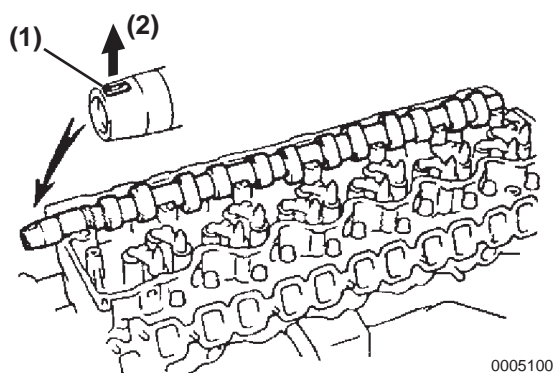

Figure 5-71
3. Install the camshaft on the cylinder head with the keyway groove (**Figure 5-71, (1)**) facing up (**Figure 5-71, (2)**).